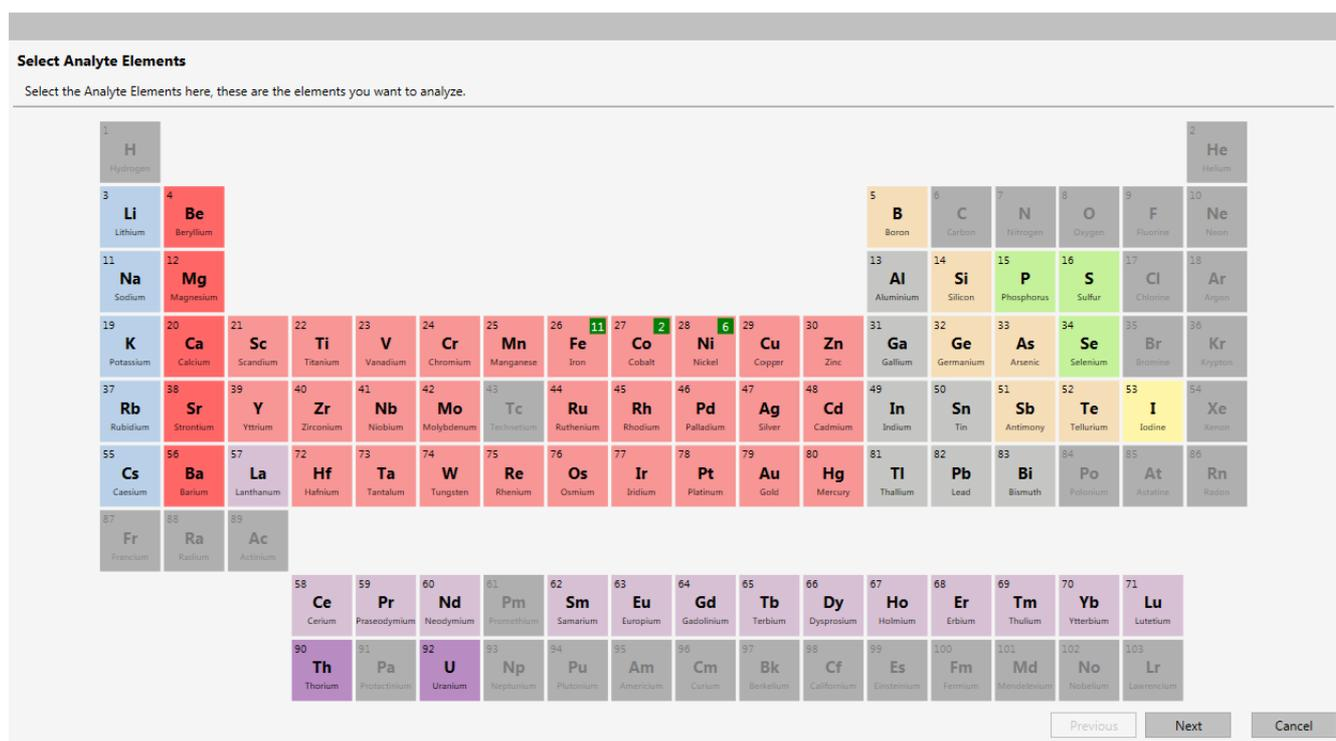

Figure 7-3. Selection of Analyte Elements
1. In the step **Select Analyte Elements**, select the elements from the Periodic Table that you want to analyze. These elements are referred to as Analyte Elements within an Element Finder routine. As in a normal LabBook, elements outside the instrument's detection capability can not be selected, see Figure 7-3.